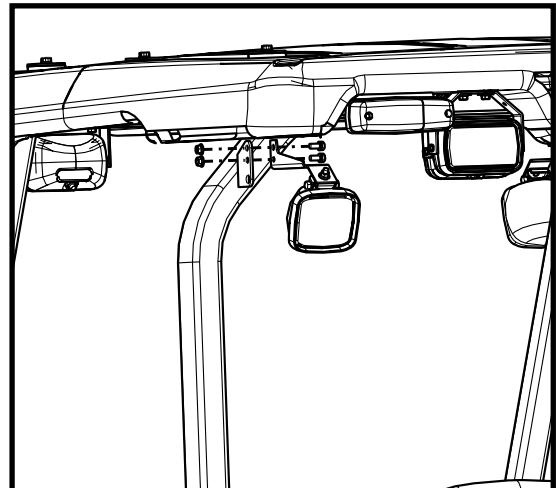

Figure 1.3: Remove Optional Rear Work Lights
- 1.3 Unplug and remove the optional work lights and brackets (if installed) from the ROPS at the rear of the vehicle (see Figure 1.3).